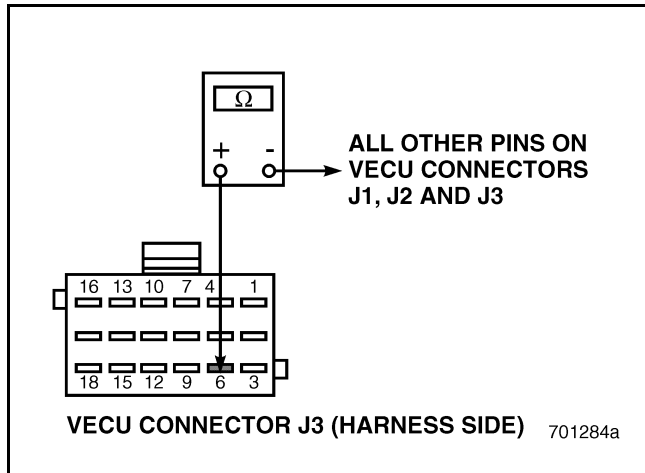

Figure 559
2. Disconnect the Throttle Position (TP) Sensor.
4. Check for continuity between VECU connector J3 pin 6 and all other pins on VECU connectors J1, J2 and J3 (see Figure 559).